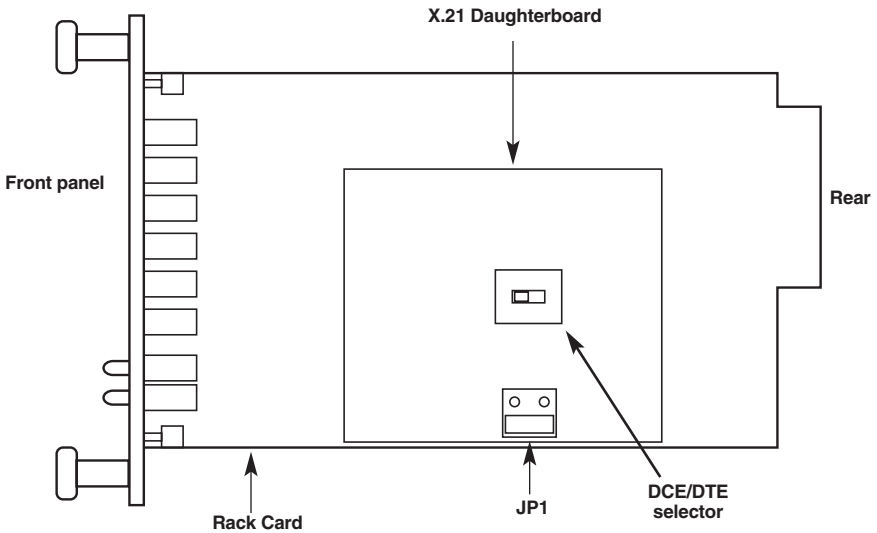

Figure 3-9. View of the X.21 daughterboard, DCE/DTE selector, and JP1.
Figure 3-9 shows the X.21 daughterboard, DCE/DTE selector, and jumper (JP1) location with respect to the rack card. Following Figure 3-9 are guidelines for the installation of the X.21 daughterboard, setting for DCE/DTE, and a brief description of Jumper JP1.
2. Install the X.21 daughterboard onto the front card with the “Front X.21” arrow pointing to the front panel of the rack card (see Figure 3-9).
The X.21 daughterboard operates at speeds up to 2.3 Mbps. When using the daughterboard at data rates of 2 Mbps or higher, clocking issues may introduce bit errors. Bit errors can also occur when long cables are used to interconnect the modem to an X.21 terminal device (router, multiplexor, etc.). To solve bit error problems due to speed and/or long cables, the X.21 daughterboard is equipped with a jumper selector (JP1) that changes the sampling edge of the transmit clock. Refer to Figure 3-9 for jumper JP1 location.
- **Normal setting:** The jumper shorts the two outer pins of JP1. Figure 3-9 shows the default position. This position is selected when operating at low data rate (less than 2 Mbps) and using a short X.21 terminal cable.